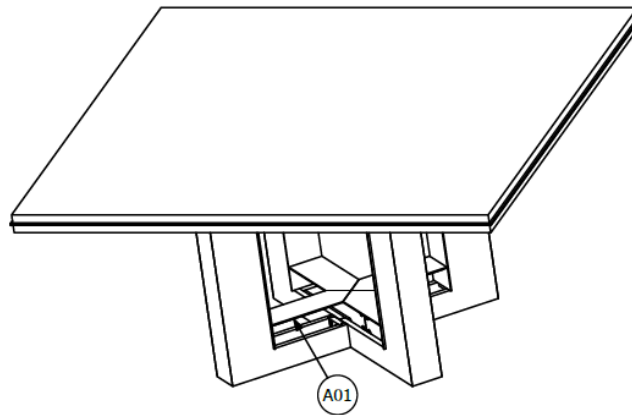

FIGURE 13: BOTTOM ACCESS COVER ASSEMBLY
2. After table assembly and/or cable management is complete, Bottom Access Covers (A03\B03) just drop into place. See Figure 13.